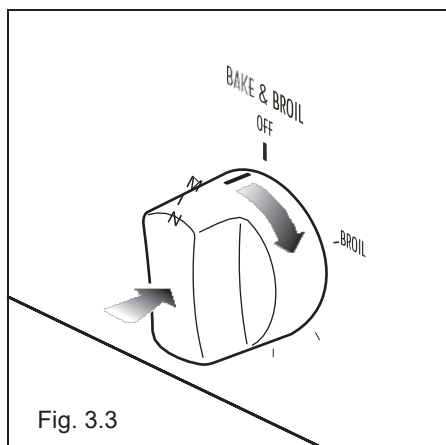

Fig. 3.3
- 2) Turn the knob to the **BROIL** position, as shown in Fig.3.3. the oven automatically ignites, and it lights within 5.5 seconds; if it can't be lighted for the first time, it will ignite again after 12 seconds, and lights within 5.5 seconds; If it can't be lighted after repeating for 3 times, reset the knob to OFF and then turn it on again.